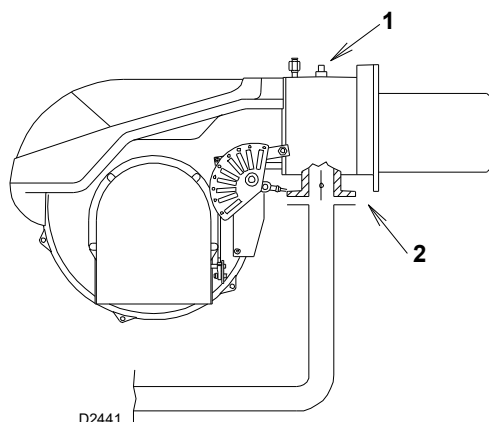
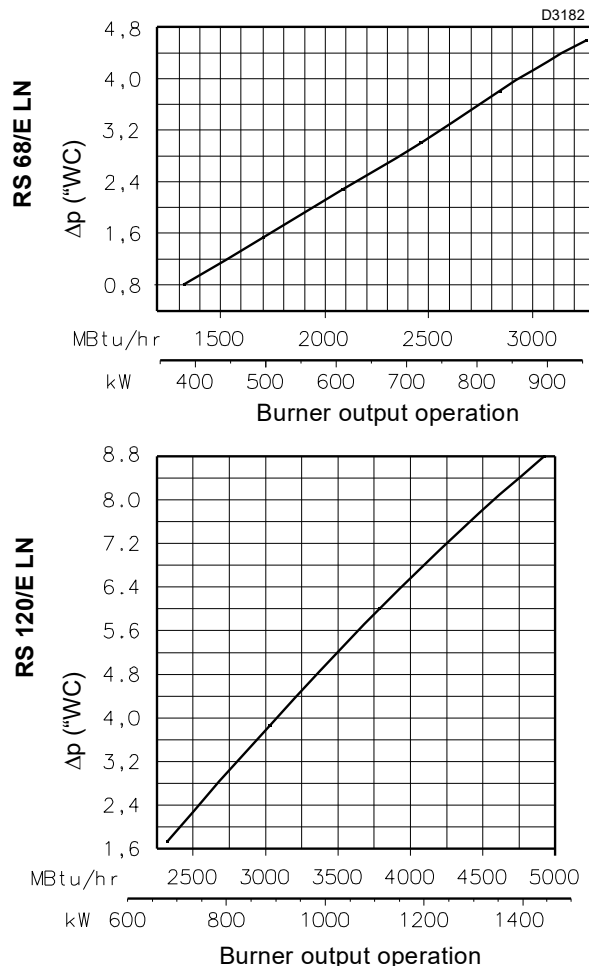

Fig. 24
Fig. 25
The diagram (Fig. 25) show minimum load losses at combustion head depending on the maximum burner output operation with natural gas (G 20).
Gas pressure is measured at the test point 1)(Fig. 24), with:
- subtract the combustion chamber pressure from the gas pressure measured at test point 1)(Fig. 24);
- find, in the diagram (Fig. 25) the pressure value closest to the result you want;
- Gas pressure at test point 1)(Fig. 24) = 5.11 "WC
To know the required gas pressure at test point 1)(Fig. 24), set the maximum output required from the burner operation, then:
- read, on the diagram (Fig. 25), the pressure test point 1)(Fig. 24);
pressure required at pressure test point 1)(Fig. 24).
Δp "wc gas butterfly 2)(Fig. 24)